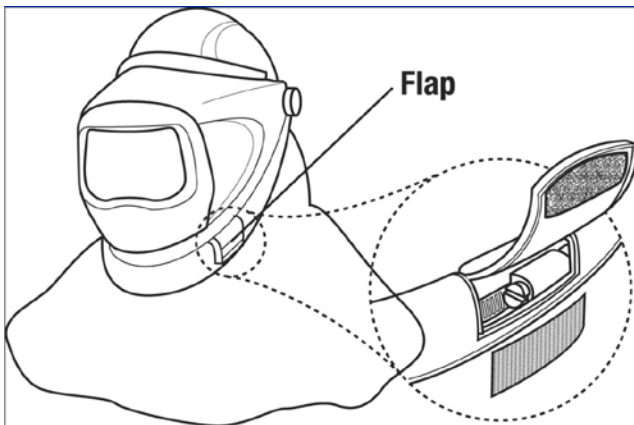

Fig. 23: Removing and Installing the Outer Shroud
- Lift the 3M™ Scotchmate™ flap on the left side of the shroud (Fig. 23).